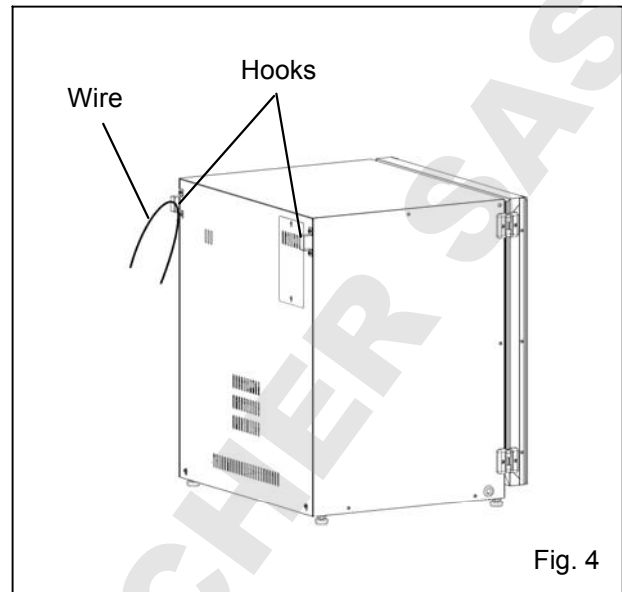

Fig. 4
**Note:** Two hooks are attached to the rear of the upper incubator. When stacking incubators, fix the upper incubator to the wall with these hooks and wire or chain (Fig. 4).